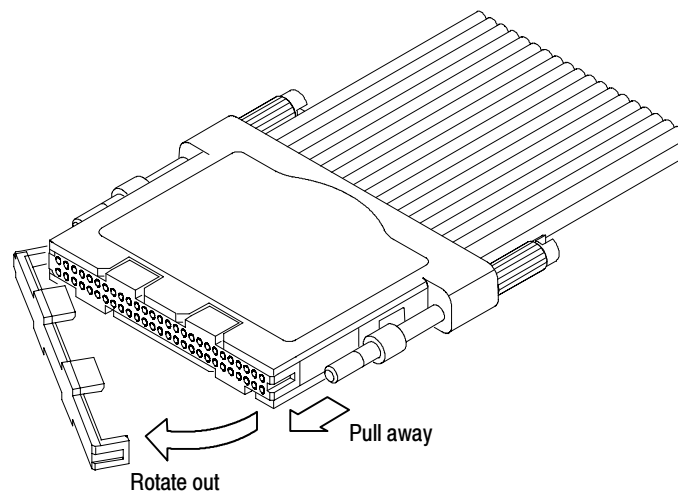

Figure 28: Replacing the cLGA clip
1. Gently pull one side of the clip away from the probe head, as shown in Figure 28, and then remove the entire clip.